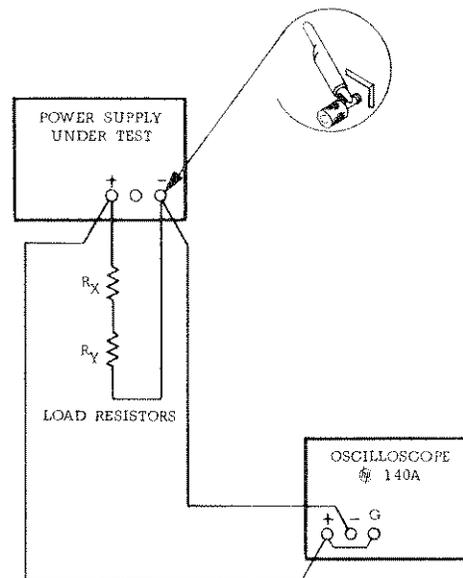

Figure 5-6. Ripple and Noise, Test Setup
a. Retain test setup used for previous line regulation test except connect oscilloscope across output terminals as shown in Figure 5-6.